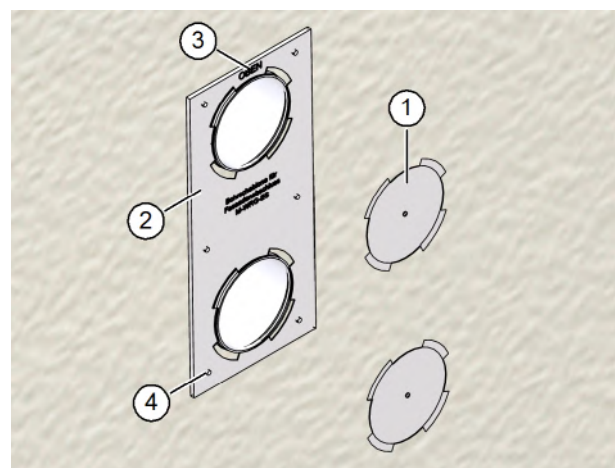

Fig. 8: Drilling the holes
- ▶ Press the pre-punched cut-outs (item 1 in Fig. 8) for the ventilation pipes out of the drilling template (item 2 in Fig. 8).
- ▶ Position the drilling template (item 2 in Fig. 8) correctly on the ventilation pipes and flush with the facade.
Note the "OBEN (TOP)" (item 3 in Fig. 8) printed on the drilling template.
- ▶ Use the 6 mm masonry bit to drill six holes, roughly 40 mm deep, in the external wall at the points indicated on the drilling template (item 4 in Fig. 8).